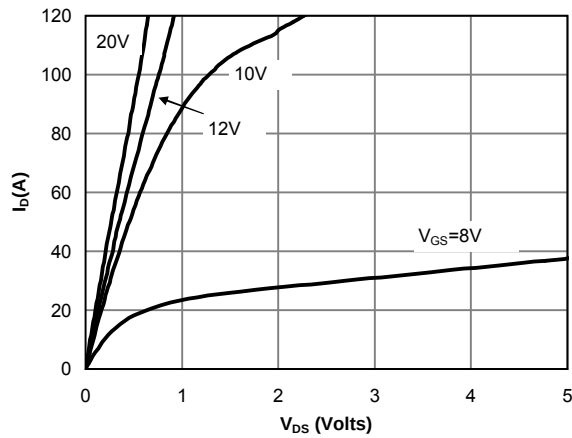

Figure 1: On-Region Characteristics
E. The static characteristics in Figures 1 to 6 are obtained using <300 us pulses, duty cycle 0.5% max.